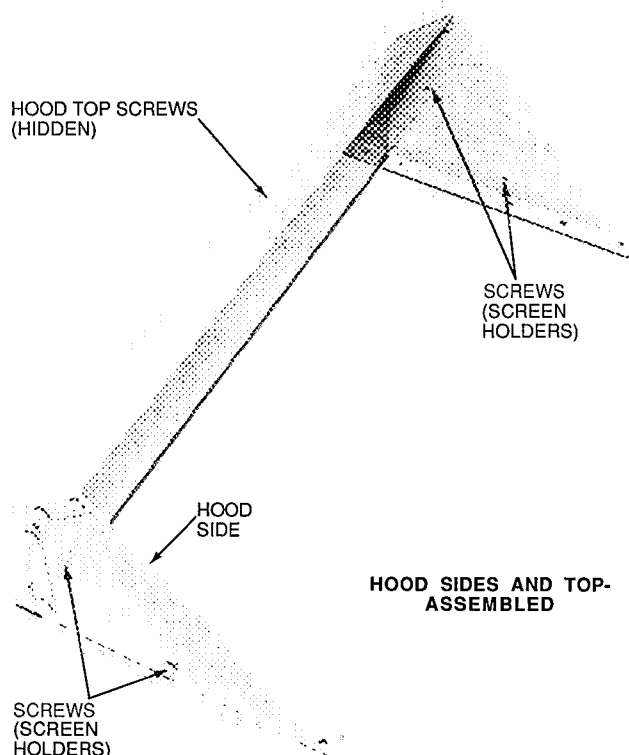
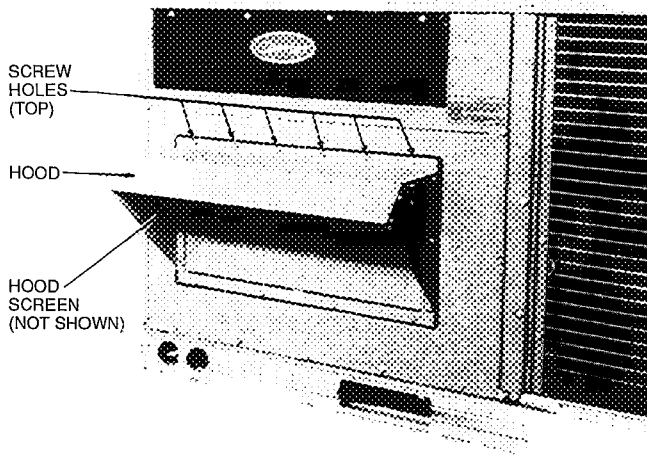

Fig. 13 — Outdoor-Air Hood Details
Fig. 14 – Damper with Hood Attached
5. Place hood on front of evaporator coil access panel. See Fig. 13 for hood details. Secure top of hood with the 6 screws removed in Step 3. See Fig. 14.
7. Align screw holes on hood with screw holes on side of manual outdoor-air damper. See Fig. 13 and 14. Secure hood with 8 screws from Step 6.
9. Remove and save screws currently on sides of hood. Insert screen. Secure screen to hood using the screws. See Fig. 14.